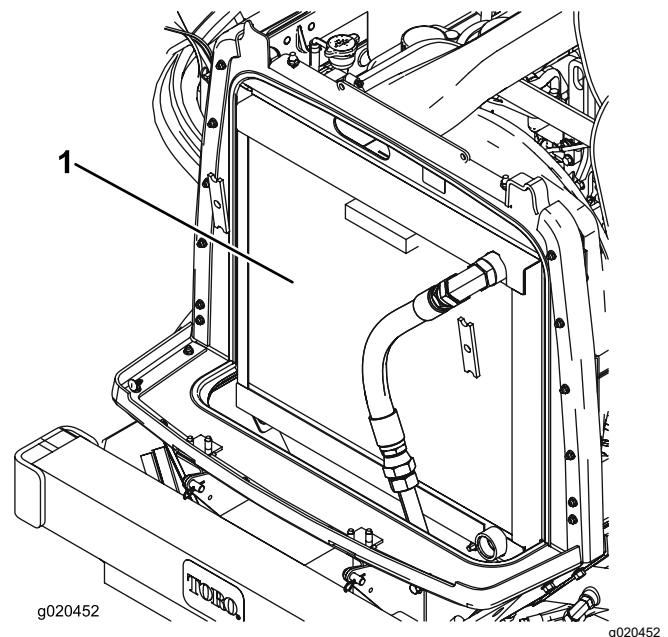

Figure 112
3. Clean both sides of the radiator/oil cooler area thoroughly with compressed air (Figure 112).